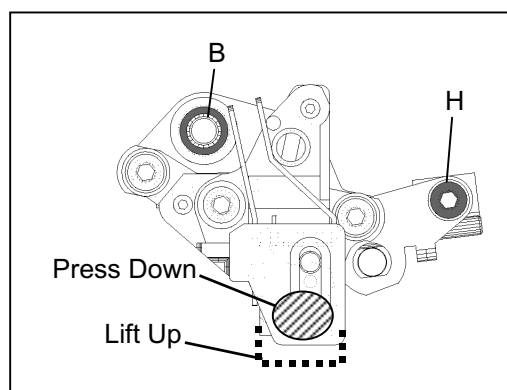

Figure 1-13-2
1. Press and Lift up to A/C Head lightly as indicated as figure position, then confirm that the CTL and CUE output level is within specification. (Please refer to figure 1-13-2 with portion at lift up and press down to A/C Head.)
3. Loosen the Height Fix Screw (H).
4. Adjust Height Adjust Screw (B) so that the CUE output level is maximum.